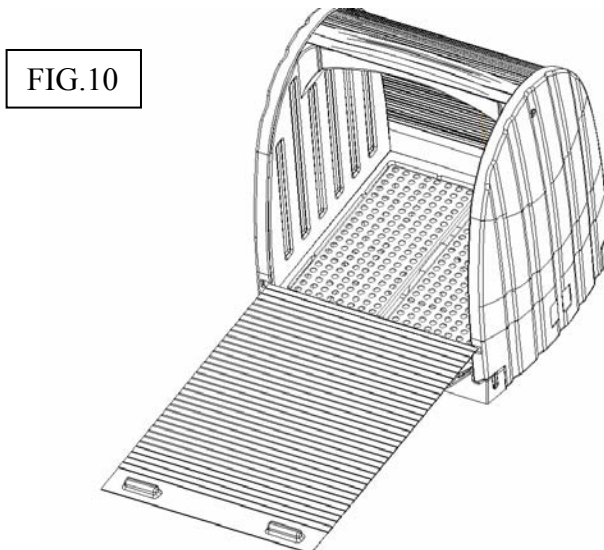

FIG.10
13) Repeat steps 11. and 12. with Part (G), tambour door with aluminum extrusions on both ends, from the opposite side of the Hard Cover Side Walls, making sure Part (G) is over top of Part (H). (See fig.10)